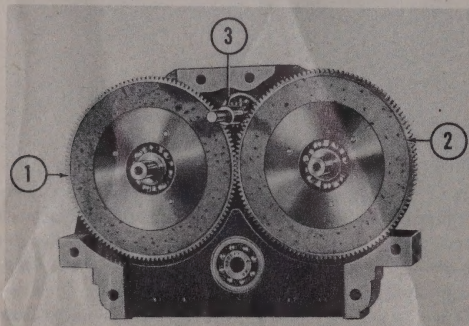

Figure 278 — Position of Steel and Bronze Gear Assemblies
5. (See figure 243.) Insert the threaded end of the stud shafts through the plate assembly (7); secure them to the plate assembly with a flat washer (6) and the hex nut (5). Pull the hex nut up tight to lock the stud shaft in place. The correct position of the steel and bronze gear assemblies is shown in figure 278. Remember that the bronze gear meshes with the steel pinion.